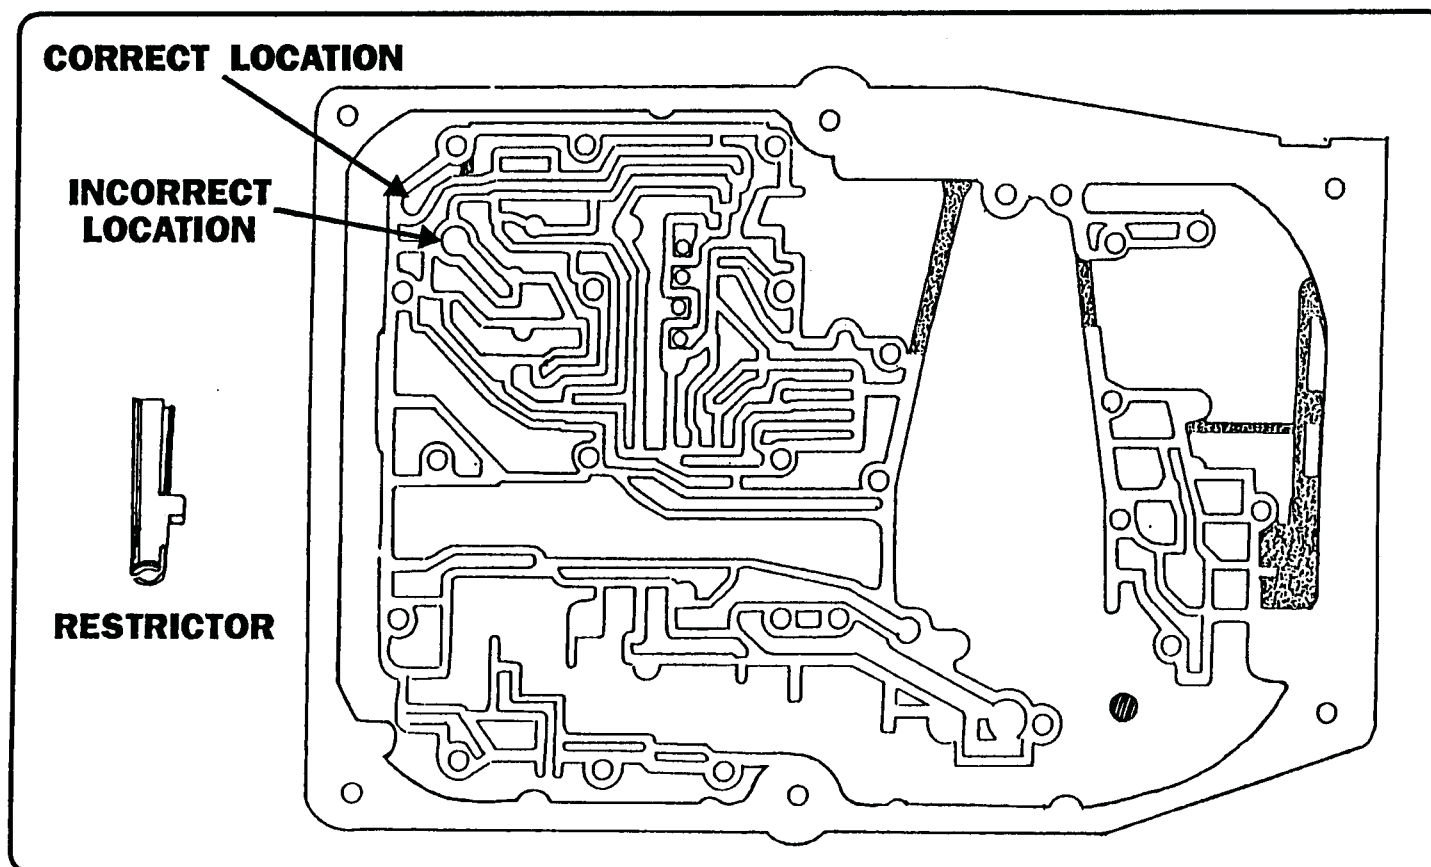

Figure 1
The TV valve line-up is different in the Mercedes models 420 SEL, 560 SEL and SL models. This change was made the the 1986 model year. Figure 1 illustrates the valve line-up.
CORRECTION:Make a 30 degree chamfer around the out diameter of the top (outside land) on the piston. The servo cover side, as shown in Figure 1.
CORRECTION: Install the Mercedes tapered oil restrictor Part no. 123 277 0319. into the transmission case as shown in Figure 1. Note that the restrictor goes in tapered end first and fits snug in the case.
- The gasket on the large intermediate plate shows severe swelling or a green slimy coating (upper right arrow in Figure 1).
- The intermediate plate shows signs of corrosion under the gasket (lower left arrow in Figure 1).
(Figure 1)
We have illustrated the separator plate ID in Figure 1 for both the regular 722.3 valve body and the 722.4 which is the 190E plate. You will note that the "regular" six bolt pan plate has a large opening where as the 190E opening is split. The arrows point to the locations on the plate. The regular plate (722.3) has a late and early version. The early will NOT fit the late valve body but the late will fit the early. Note the difference. The late has a square hole instead of the two orifices in the early. This is the position of the valve body screen.
- CORRECTION:** *Replace ball valve, part #201 270 03 89, and install retaining washer (24), part number 000 463 008403 (Figure 1).*
- CORRECTION:** *Replace steel disks K-1, bellville washer, and retaining ring (Figure 1).*